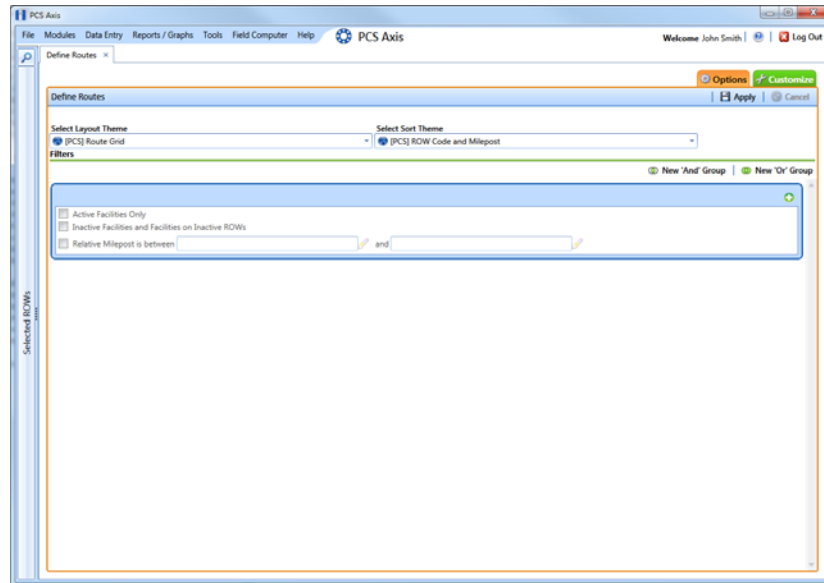

Figure 7-2. Options
- 4 Click the **Options** tab  to open the options page (Figure 7-2).
- 5 Choose a layout and sort theme. Click the down arrow in the field **Select Layout Theme** and select a layout theme. Then click the down arrow in the field **Select Sort Theme** and select a sort theme (Figure 7-2).